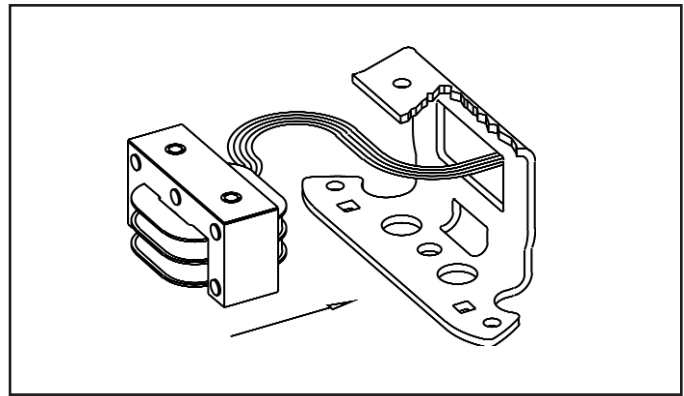

Figure 8
4. Replace with new magnet assembly (15A), making sure shock mount (15B) is in place. Feed coil lead wires through hole in back of bracket (15C) as shown in Fig. 8. Tighten mounting screws (15D) with 55-60 lb. in. torque.